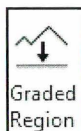

Fig. 10.62.
- Klik *Massing & Site - Graded Region* (Fig. 10.62).